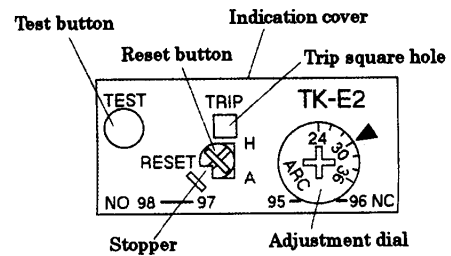

Fig. 4
- (1) Turn the adjustment dial within the dial gradations so that the current loaded to the motor is at the ▼ mark. (Fig. 4)
- (2) If the test button is pulled out, the sequence check starts. If it is depressed, only the NC contact (95-96) is opened. If it is released, the NC contact is closed again. (Fig. 4)
- (3) If the thermal overload relay operates, first remove the cause of failure such as overload, and then lightly press the reset button to reset it. (In this case, the thermal overload relay cannot be reset, if it is not cooled sufficiently.) (Fig. 4)
- (4) When the thermal overload relay operates, the trip square hole displays a yellow sign. If the thermal overload relay is reset, indication disappears from the square hole. (Fig. 4)